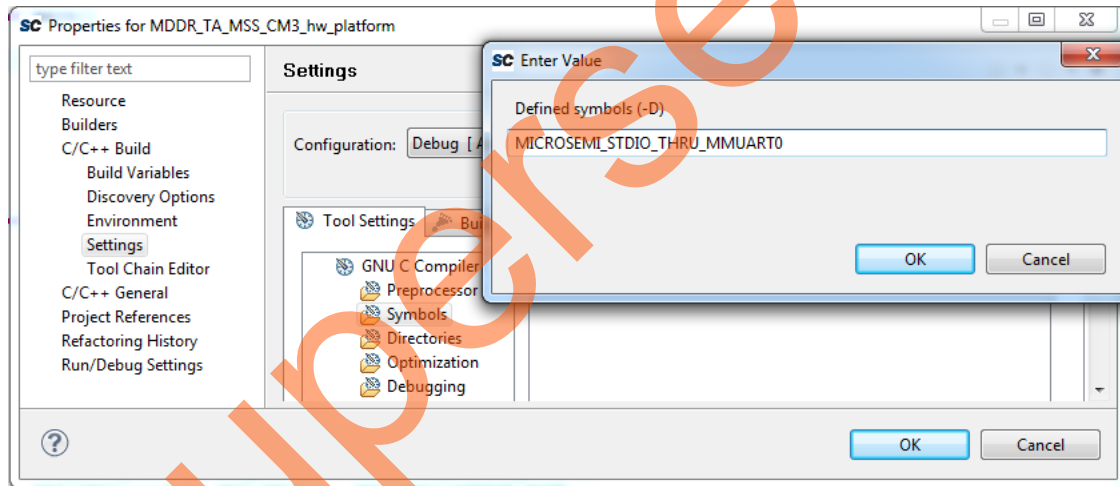

Figure 35 • MICROSEMI\_STUDIO\_THRU\_MMUART0 Symbol Settings
- Initializing and configuring the MMUART\_0 with 115200 baud rate, 8 data bits, 1 stop bit, no parity, and no flow control. This is done by adding MICROSEMI\_STUDIO\_THRU\_MMUART0 symbol in the project settings as shown in Figure 35.